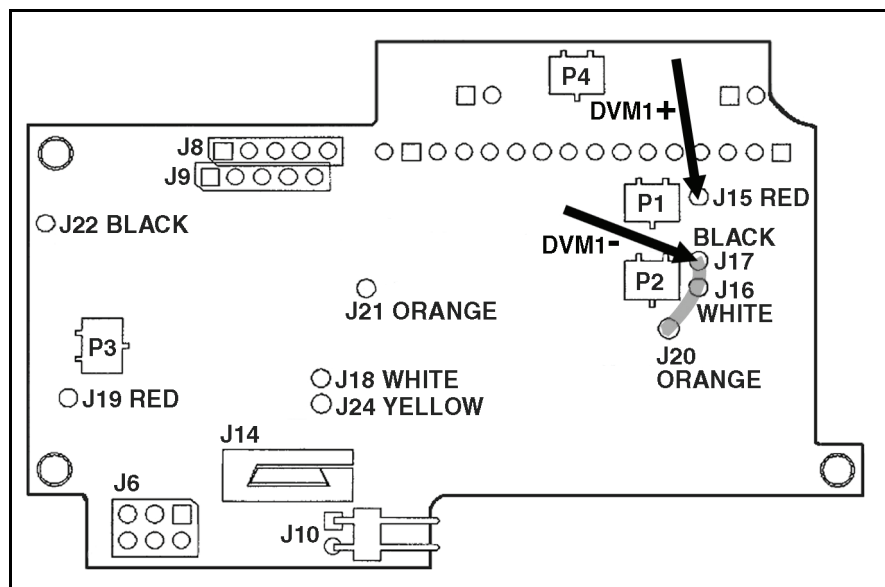

Figure 7-4. Downstream Occlusion Calibration
2. Refer to Figure 7-4. Connect one mini-clip jumper from the black test post at J17 to the orange test post at J20.